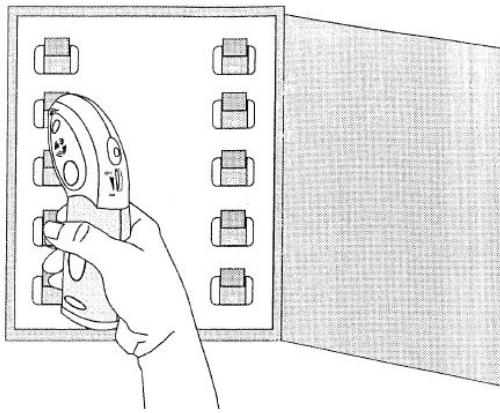

Fig.4
1. Go to the distribution panel with the circuit-breakers and hold the receiver vertically by placing the flat surface of its tapered end directly on the circuit-breaker or the fuse (fig. 4).